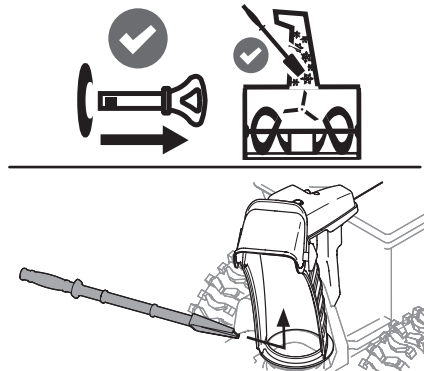

Figure 78
4. Use the shovel-shaped end of the clean-out tool to dislodge and scoop any snow and ice which has formed in and near the chute assembly. Always use the clean-out tool (Part # 931-2643), not your hands. Refer to the separate supplement for clean-out tool ordering information, if lost or damaged (Figure 78).